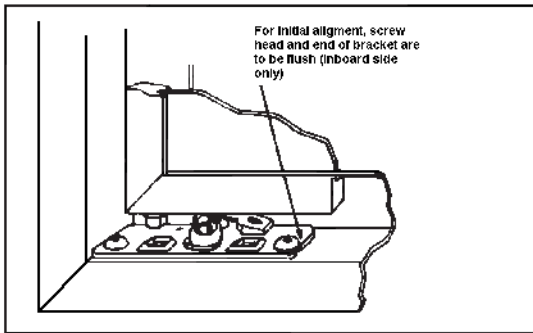

Figure 11
- For proper alignment of the bottom mounting plates at the frame ends, the inboard screws should be flush with the end of the mounting plate. Refer to Figure 11 .